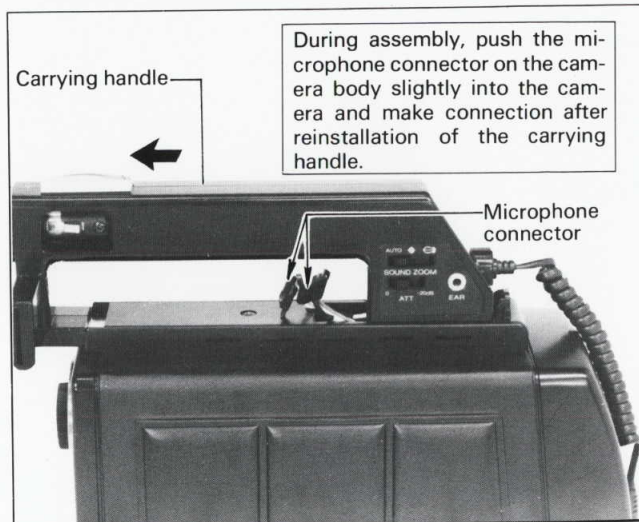

Fig. 9-2 Removal of the carrying handle
- (2) After removing the microphone connector, slide the carrying handle in the arrow-indicated direction (toward the lens) in Fig. 9-2 and remove it.